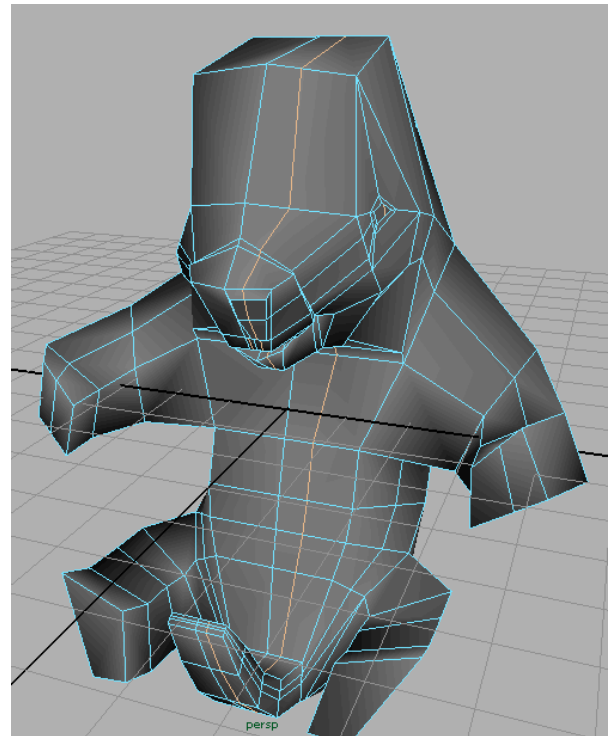

Figure 33: Add another edge loop that traverses the length of the body.
16. Use the Insert Edge Loop tool to add another edge that runs through the top of the head, the snout, and through the rest of the body as in figure 33. You can see the model up to this point in scene `mouse_v1_12.ma`.